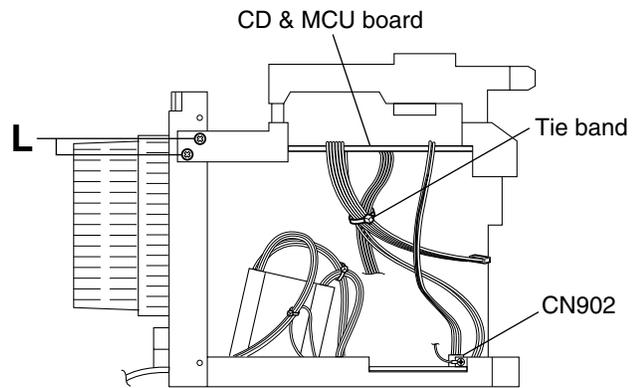

Fig.14
2. From the left side of the main body, remove the tie band bundling the wires. (See Fig.14.)
3. Disconnect the wire from the connector CN902 on the power board. (See Fig.14.)
4. From the left and right sides of the main body, remove the four screws **L** retaining the CD rear mount bracket. (See Figs.14 and 15.)